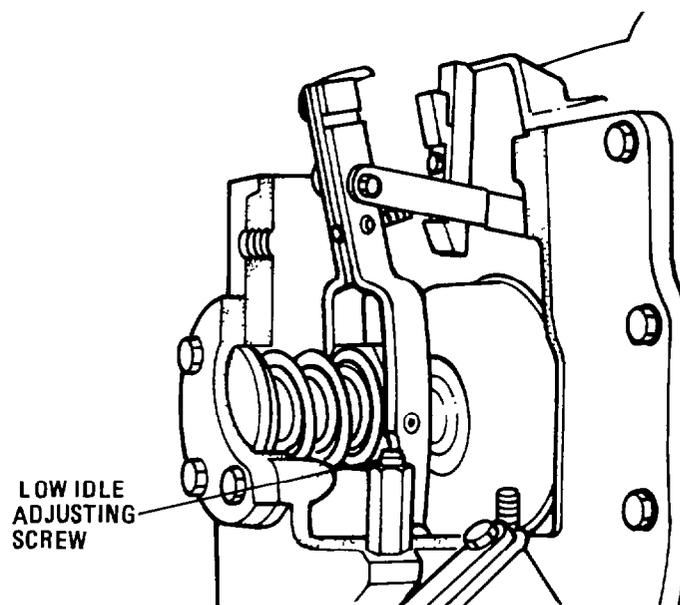

Fig. 122 — Low Idle Set Point
- k. Reduce the pump speed to 300 rev/min (low idle speed), secure the operating lever in the low idle position and adjust the idle screw to obtain a delivery of 12 - 20 cc/500 strokes or 7 - 12 cc/300 strokes (see fig. 122).